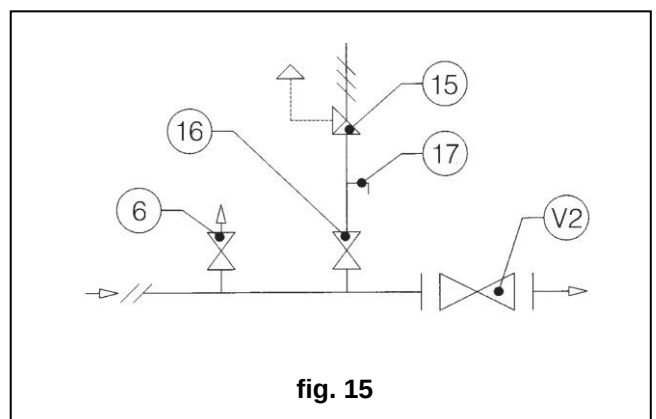

fig. 15
4.1.2 INSTALLATIE MET AFSLUITKRAAN (fig. 15)